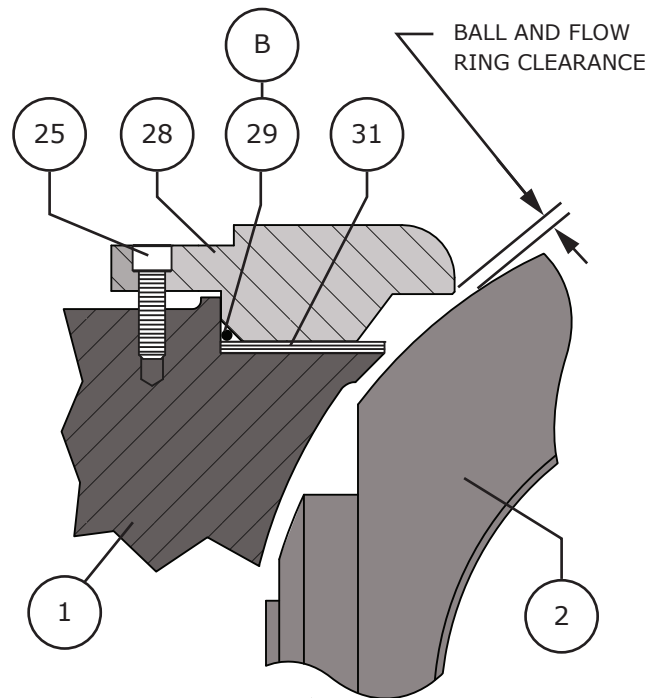

Figure 42 Flow Ring Assembly Diagram
- 2 Place 6 ball seal shims (Key 31) over the ball (Key 2) and on to the valve body (Key 1). Refer to Figure 42.